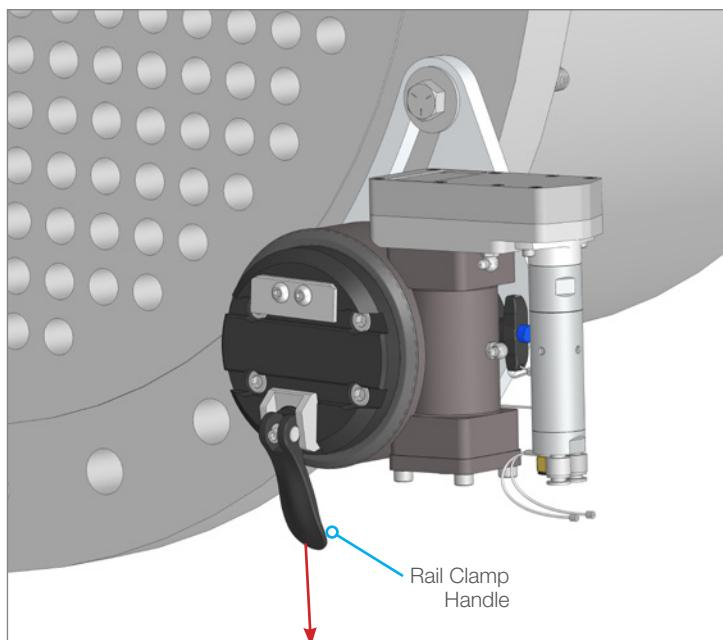

FIGURE 5
6. To make installation of the Rail and the Linear Drive easier, the Rail Clamp Handle should be facing down but is not required. In order to change the orientation of the handle, connect the air hoses from the Control Box to the Rotary Drive as shown in the next step. (**Figure 5**)